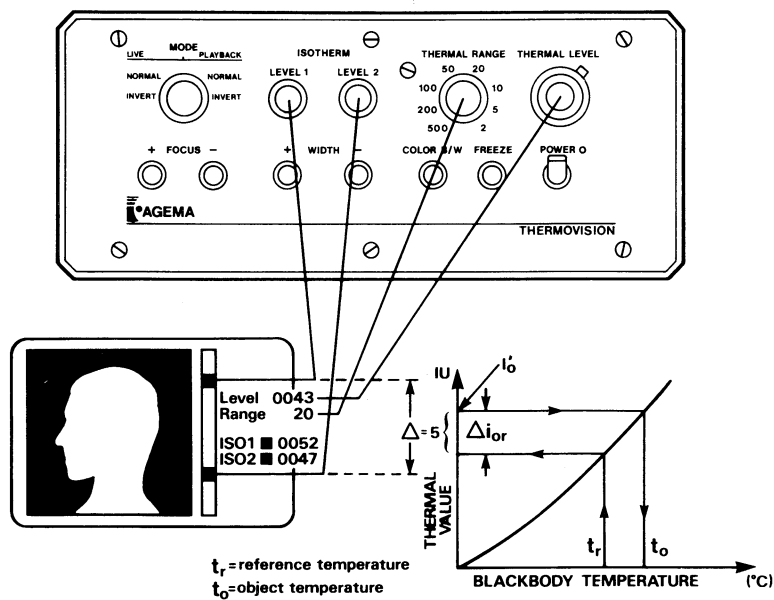

Fig. 8.1 Direct Temperature Measurement Procedure
- (a) Adjust the THERMAL RANGE and LEVEL controls to obtain a satisfactory thermal picture. Note the setting of the THERMAL LEVEL control knob, “L” (see figure 8.1). **Full scale equals 500 isotherm units.**
- (c) Mark the I'_o value on the calibration chart vertical axis and read the corresponding object temperature on the horizontal axis. See figure 8.1.